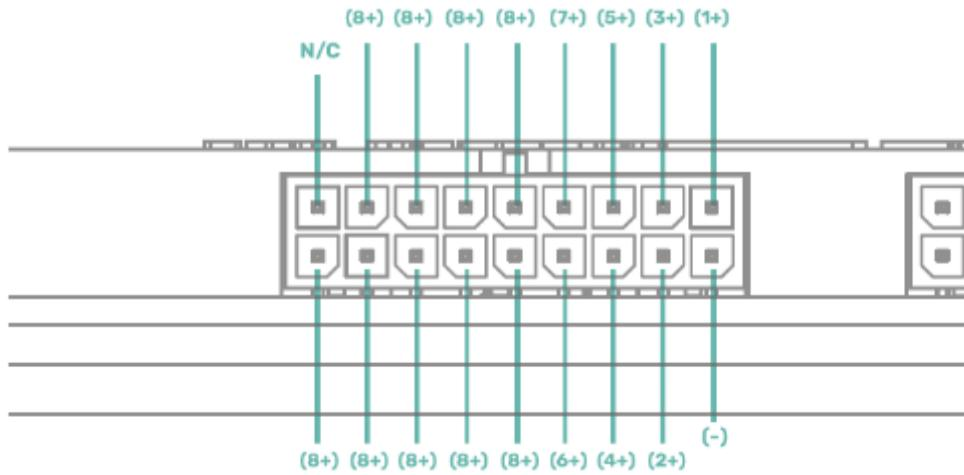

Figure 3-16 Cells connection, with e.g 8 cells in series
**NOTE:** Connection must start from the most negative cell to the most positive. In cases when cells number is less than 16, e.g 8 cells, then free cells connection wires (dedicated for 9th-16th cells) must ALL be connected to the last 8th (most positive cell). As shown in Figure 3-16 Cells connection, with e.g 8 cells in series.